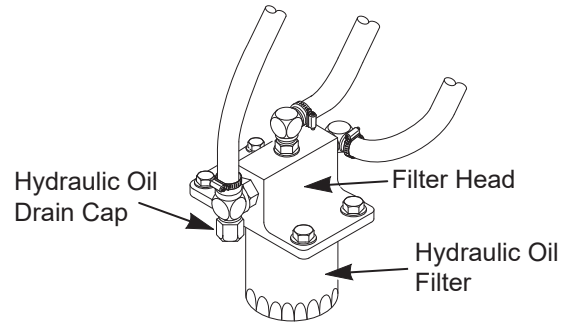

Figure 7-2. Hydraulic Oil Filter and Drain Cap
2. Place a suitable container under the hydraulic oil drain. Remove the fill cap from the reservoir. Remove the drain cap from the tee fitting located on the hydraulic system filter head. See Figure 7-2. Allow the fluid to drain into the container and properly discard it.
1. Remove the oil filter element and properly discard it. See Figure 7-2. Fill the new filter with clean oil and install the filter. Hand tighten only.